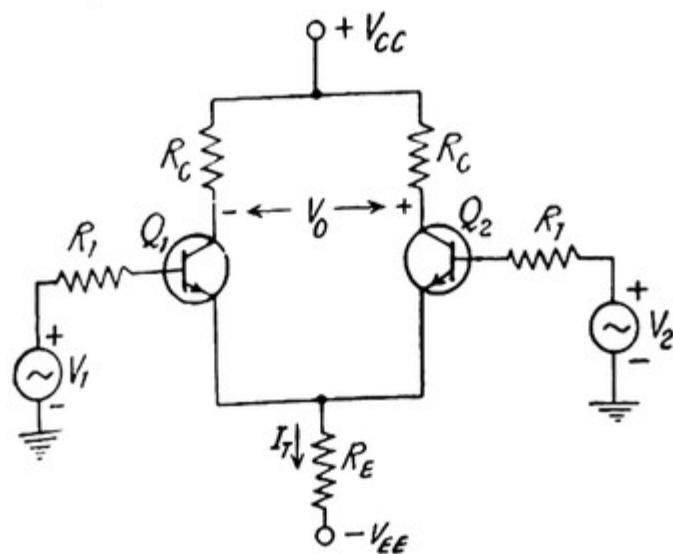

Fig. 5(b). Basic form of a differential amplifier.
(3) *Common mode* : In this mode, the input signals are identical both in amplitude and phase at every instant of time. i.e.,  $V_1=V_2$  so that from eq. (1),  $V_d=0$  giving  $V_o=0$ . Thus common mode input signals produce no output voltage.
**Emitter Coupled Differential Amplifier :** Fig 5(b) shows the basic form of differential amplifier. It consists of a pair of identical transistors  $Q_1$  and  $Q_2$  connected to a common emitter resistor (the tail). The current through this common resistor is called as the tail current,  $I_T$ . There are two inputs  $V_1$  and  $V_2$  and output,  $V_o$ , is the voltage between the two collectors.
*d.c. analysis of a differential amplifier :* The d.c. equivalent of fig. 5 (b) is shown in fig. 5 (c). The differential amplifier uses emitter bias. The top of the emitter resistor is an approximate ground point so that full supply voltage.  $V_{EE}$  appears across  $R_E$ . Therefore d.c. tail current is